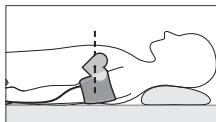

Fig.4
2. You can measure the blood pressure lying on the back (fig. 4). Look at the ceiling, keep quiet and do not move during measurement. Be sure that the cuff is placed approximately at the level of your heart.